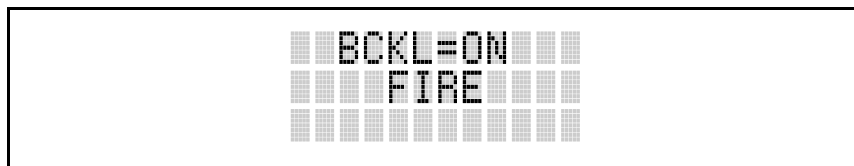

Figure 16: Backlight Menu Display
- The backlight menu item is activated. Line one shows the active menu item and its current parameter setting. Line two shows the currently selected system or group name (see Figure 16).